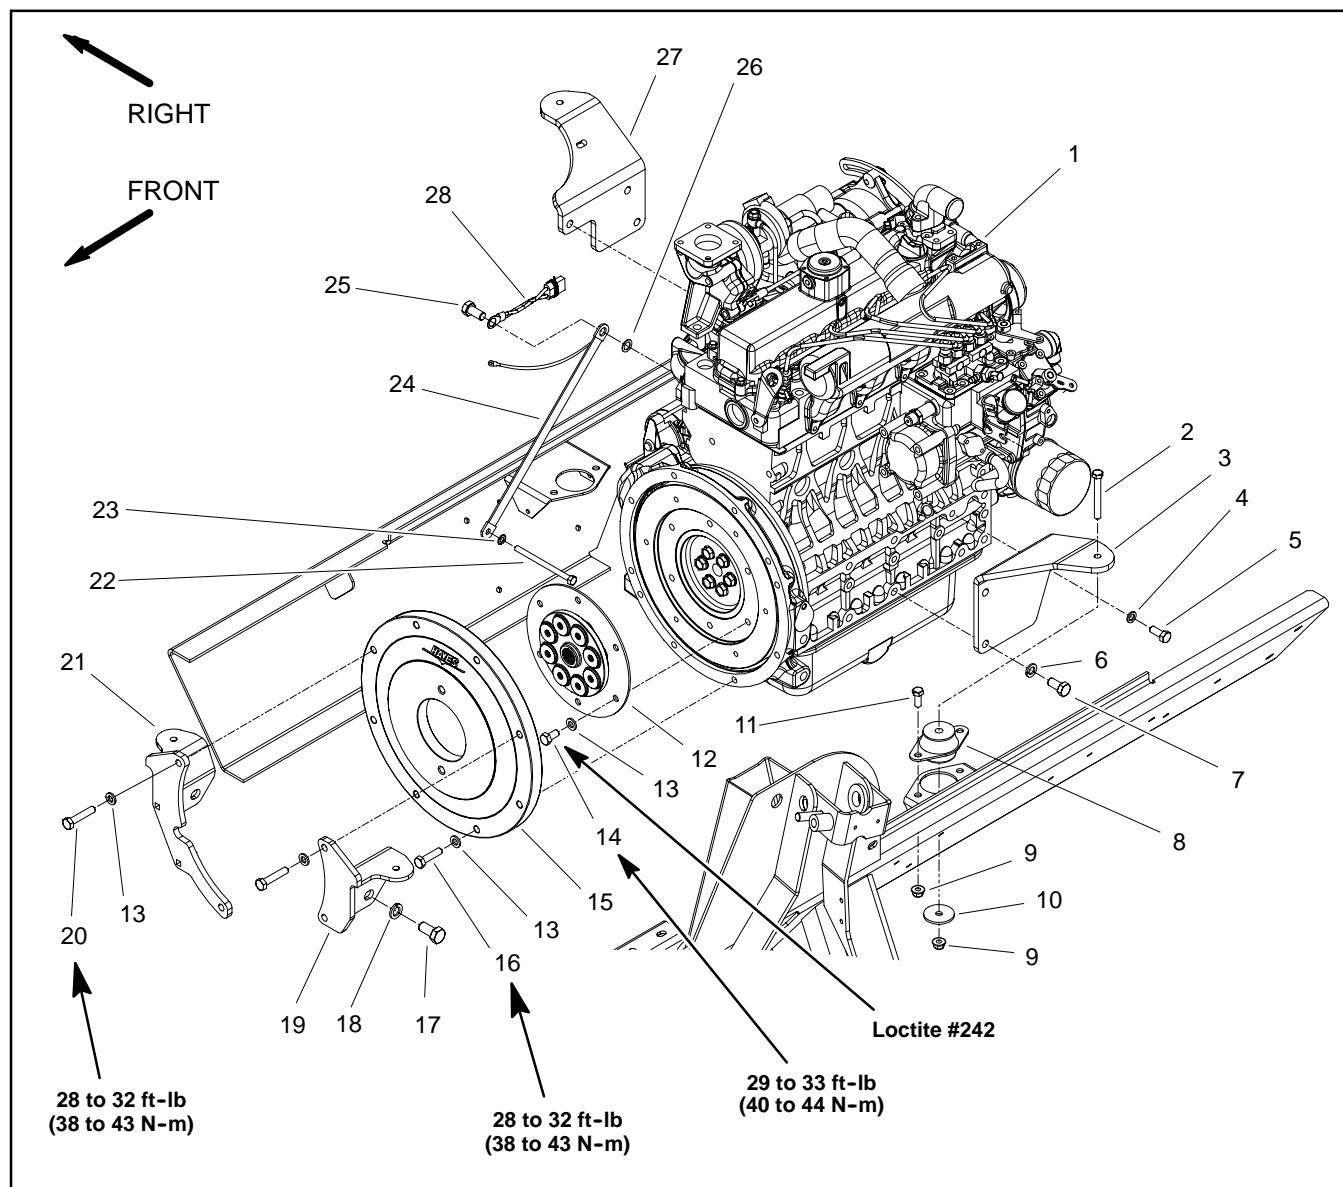

Figure 10
## Engine Removal (Fig. 10)
19. If necessary, remove engine mounts from the engine using Figure 10 as a guide.
#### Engine Installation (Fig. 10)
2. If removed, install engine mounts to the engine using Figure 10 as a guide.